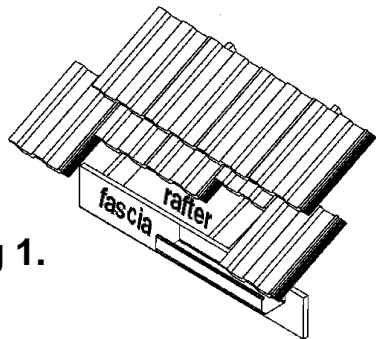

Fig 1.
- 1** Slip three (3) tiles to expose two (2) rafters as per fig1.